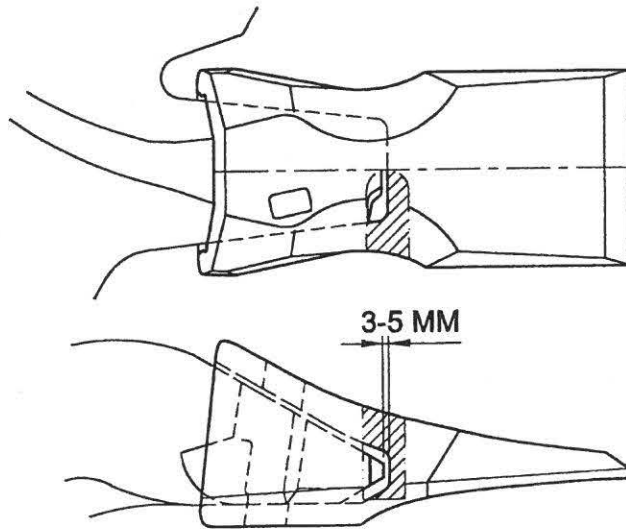

Figure 10.4
4. **Check clearance.** After obtaining a tight fitting on the contact surfaces and the right size of the slot for the locking, the clearance between the front face of the adapter nose and the corresponding surface inside the tooth has to be checked by using a gauge-tooth. The right clearance has to be as indicated in figure 10.4. If necessary weld and/or grind the front surface of the adapter nose to obtain the right clearance.